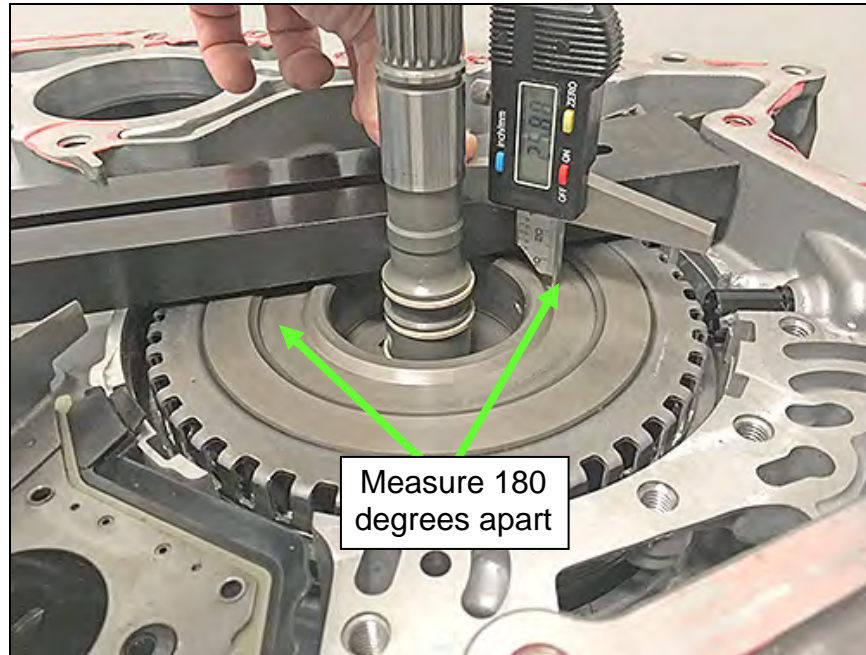

Figure 5GG
- d. Carefully slide the gauge down until it bottoms out on the upper surface of the clutch drum where thrust bearing seats, where shown in Figure 5GG. Write this measurement as **D1** (use millimeters).